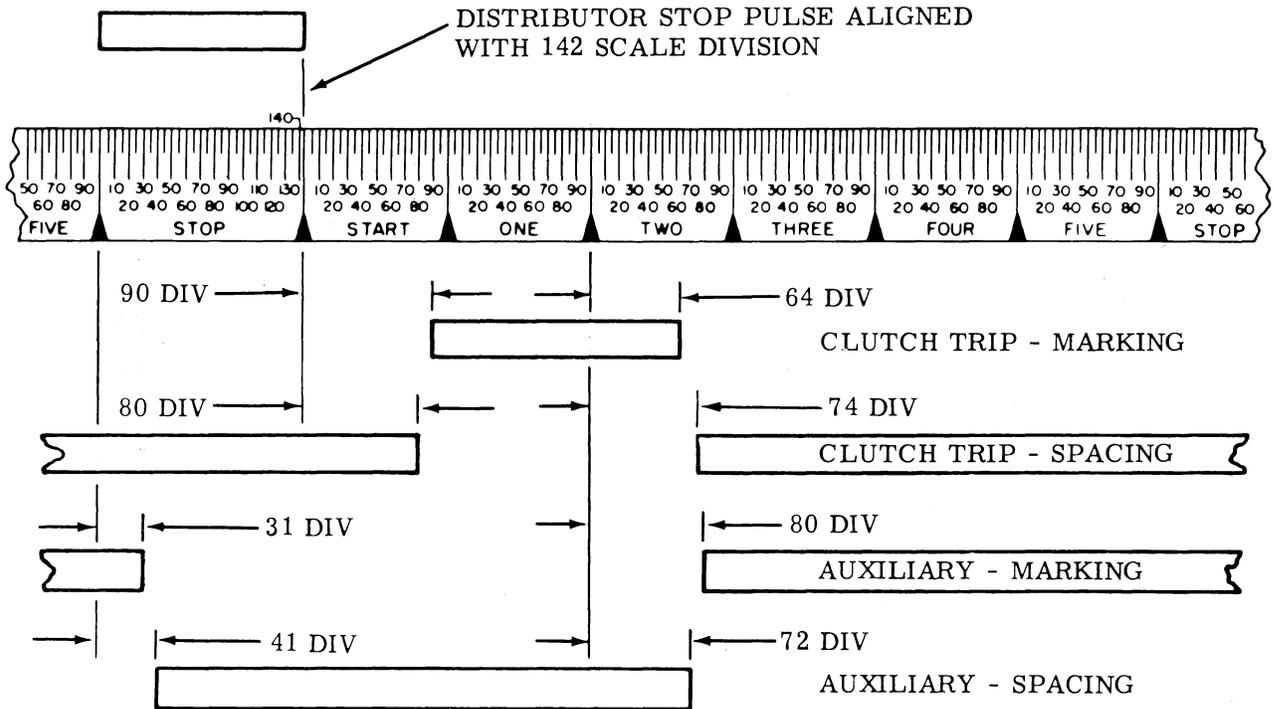

Figure 5
- (c) Sensing Auxiliary Contacts (See Figures 5 and 6)
- (1) Both magnets de-energized, distributor and transmitter shaft clutches latched and in the stop position. Turn motor off.
- (2) Hold distributor and transmitter shaft gears against rotation. Energize both clutch trip magnets.
- (3) Release gears and turn motor on.
- (4) Align the end of the distributor stop pulse image with the 142 scale division on the stop segment of the test set scale.
- (5) Clutch trip marking contacts should:
- (6) Clutch trip spacing contacts should: